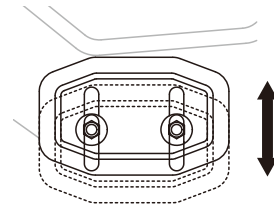

Fig.15B
3. The height of the skid shoes can be adjusted according to the actual snow conditions without removing the nuts. Just loosen the nuts, adjust the skid-shoe position up or down, and then retighten (Fig.15B).